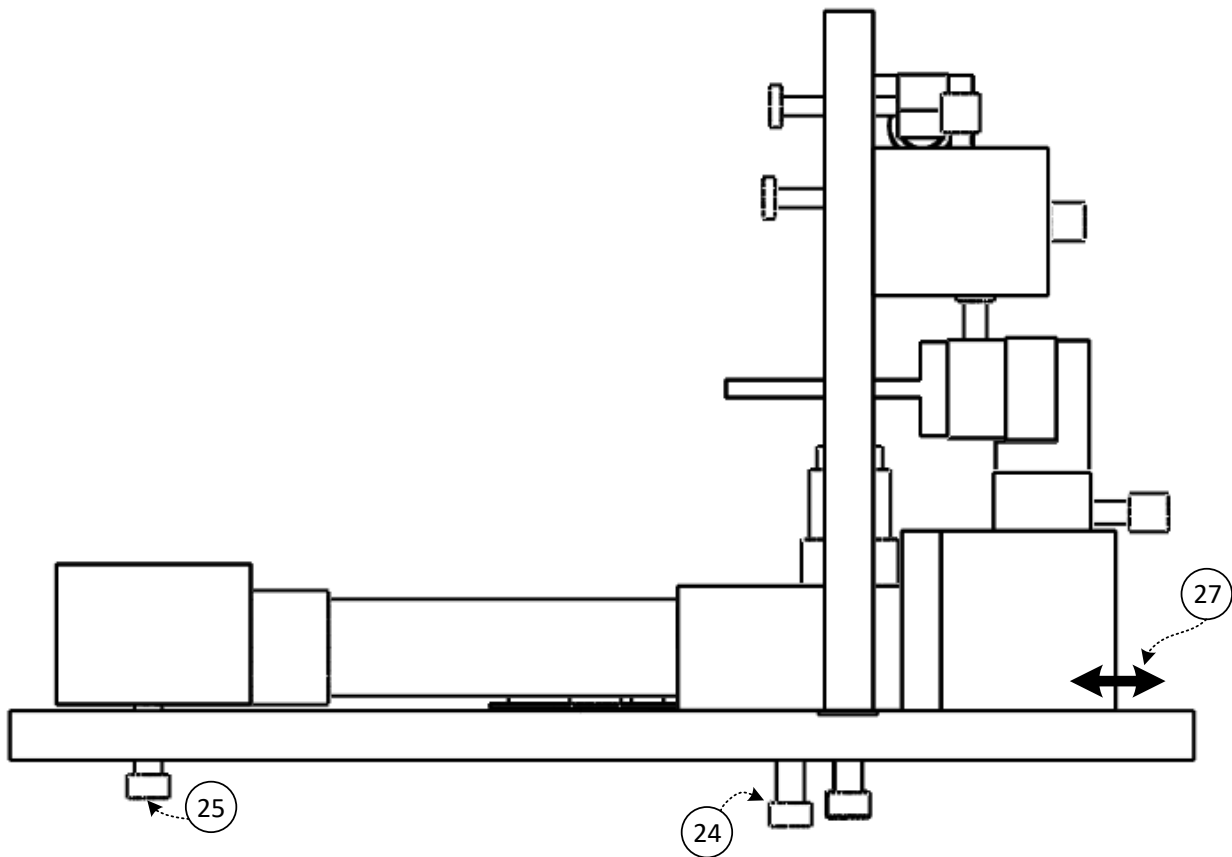

Figure 4-2. Side view of Picomeasure PM-2
- 4.4. Chip holder and laser beam alignment:** In order to pass the laser through the slot (34), it is important to align the chip holder (29) with the laser beam coming from the optical head. For rough alignment, use loosen the screws (24, 25) and slightly move the whole microscope assembly along the line (27) (figure 4-2). Do not use the XYZ translation stage for chip holder (6) to achieve the rough alignment. Once the laser beam seems to be passing through the slot (34) on the chip holder, use the XYZ translation stage (6) to get fine alignment. This step may remove the cantilever from the field of view of the microscope. Therefore, it is important to not use the XYZ translation stage (6) for larger displacements.